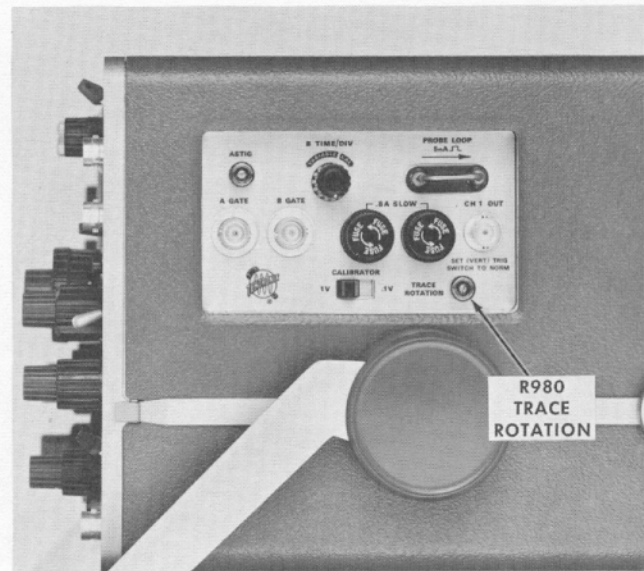

Fig. 6-13. Location of Trace Rotation adjustment (side panel).
8. Adjust Trace Alignment ①
- Adjust—TRACE ROTATION adjustment, R980 (see Fig. 6-13), so the trace is parallel to the horizontal graticule lines.